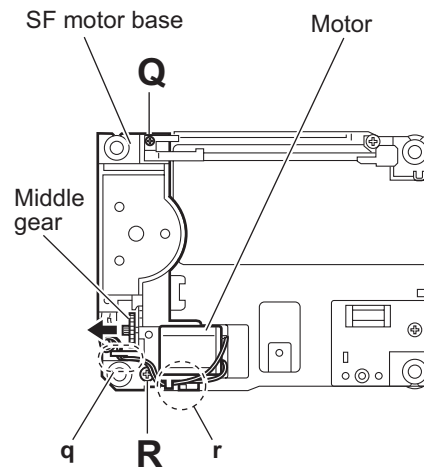

Fig.17
### 3.2.10 Removing the motor (See Figs.17 and 18)
- (1) Remove the middle gear in the direction of the arrow. (See Fig.17.)
- (2) Remove the screw **Q** and screw **R** attaching the SF motor base. (See Fig.17.)
After attaching the feed motor, let the wires through the sections **q** and **r** on the SF motor base. (See Fig.17.)